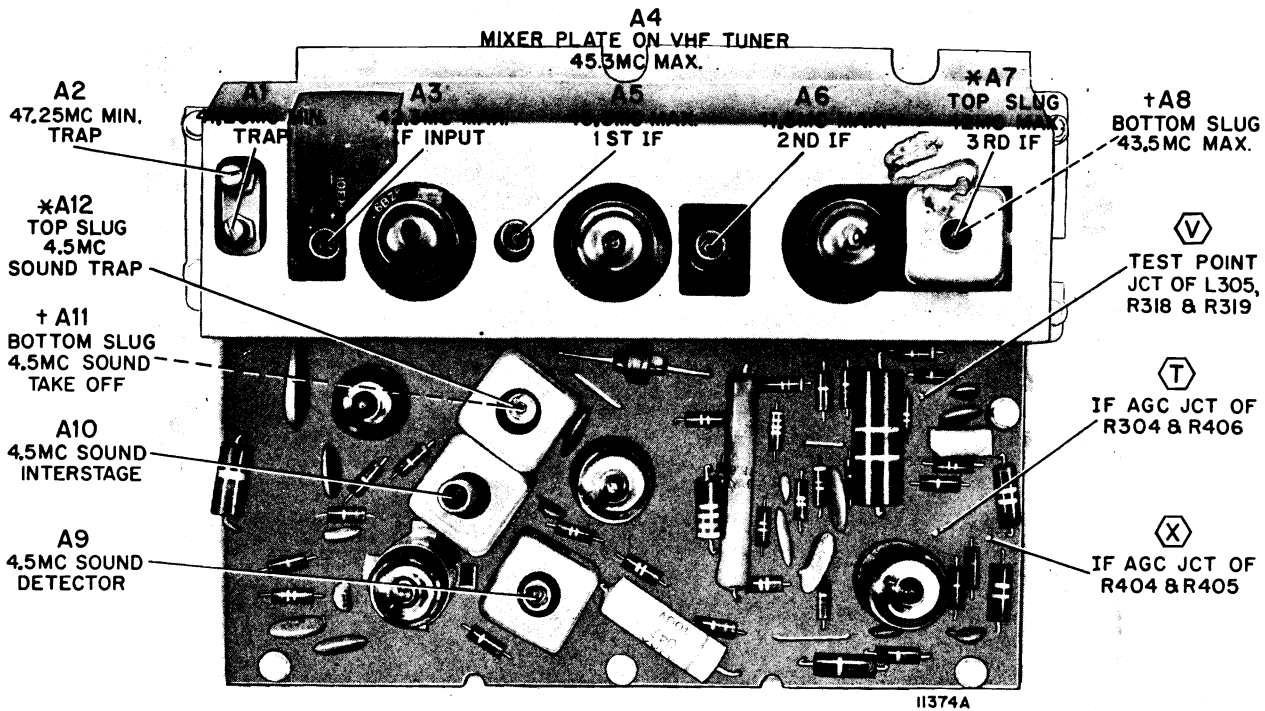

Figure 11. Inside Chassis View of Etched Circuit Board Showing Test Point Locations and IF Alignment Data.
- Connect negative of 3.0 volt bias supply through 10K resistor to test point "T" (IF AGC), see figure 11, and positive to chassis.
2. Select the strongest TV station received. AGC control must be in proper adjustment, see procedure on page 4. Adjust other controls for normal operation. See figure 11 for adjustment locations.